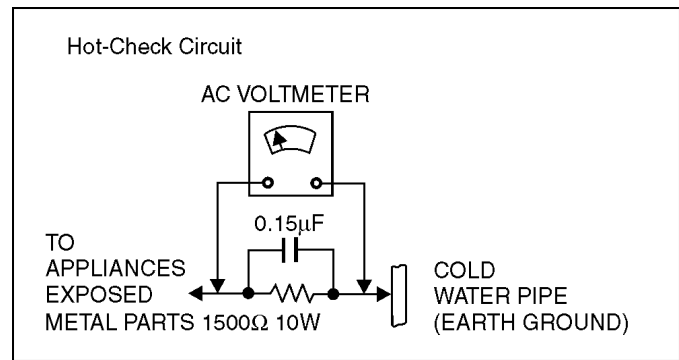

Figure 1
2. Connect a $1.5\text{k}\Omega$, 10 watts resistor, in parallel with a $0.15\mu\text{F}$ capacitors, between each exposed metallic part on the set and a good earth ground such as a water pipe, as shown in Figure 1.